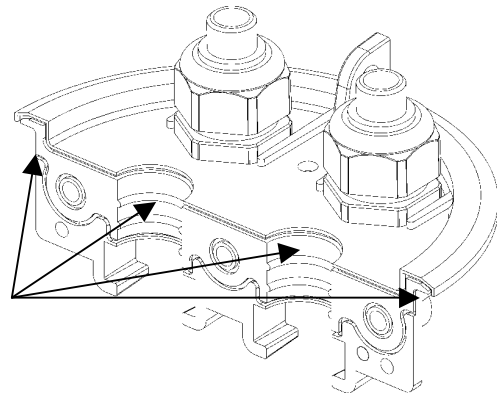

Figure 14
8.0.7 Apply a thin layer of Silicone Grease to the gaskets entire surface of the lower and upper end plates of the closure. *See Figure 14*